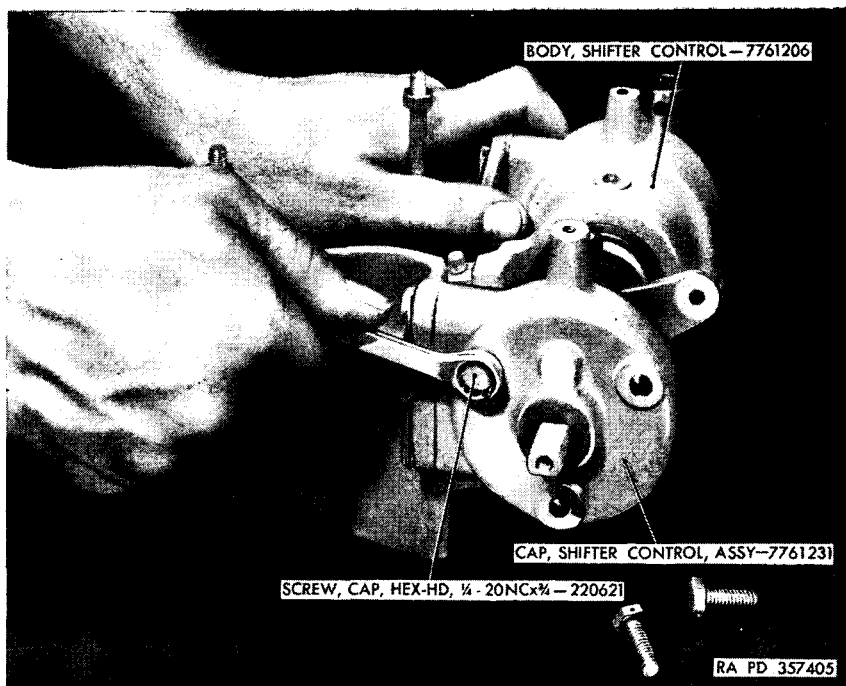

Figure 102. Removing or installing of cap on gunner's shifter control.
- (2) Remove lock wire and three screws (fig. 102) and pull out cap, spacer, washer, control lever, clutch, and shaft. If worn (par. 71), remove bearing from cap using drift pin through shaft hole in cap. If "O" ring gasket in cap is defective, pull out with scriber or other pointed instrument.